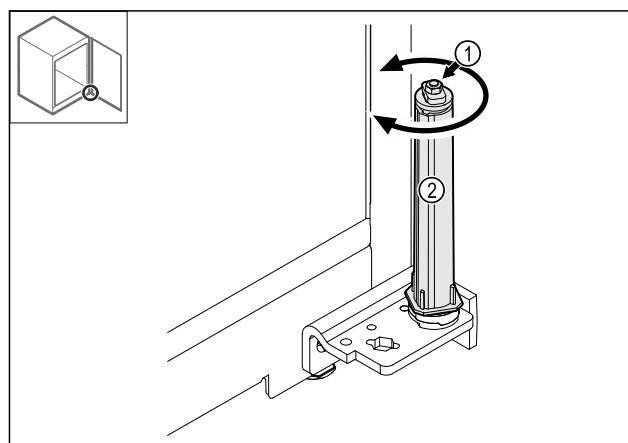

Fig. 43
► Do not disassemble the screw connection Fig. 43 (1) of the closing system.
► Turn the closing system Fig. 43 (2) until it clicks.